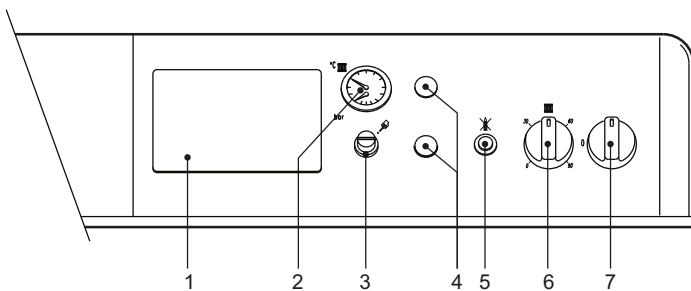

fig. 1 - Control panel
- Turn the boiler switch "7" to 1 (fig. 1).
- If the boiler is equipped with an electronic thermostatic controller fitted in position 1 of fig. 1, the user must also take into account the manufacturer's instructions.
Turn the knob **6** of fig. 1 clockwise to increase the heating water temperature, or anticlockwise to decrease it. The temperature can be varied from a minimum of 30°C to a maximum of 90°C. However, it is advisable not to operate the boiler below 45°C.
Using the room thermostat, set the temperature required in the rooms. By room thermostat command, the boiler lights and brings the system water to the temperature set by boiler control thermostat **6** of fig. 1. The generator goes off when the required temperature in the rooms is reached.
The filling pressure with system cold, read on the boiler water gauge detail 2 of fig. 1, must be approx. 1.0 bar. If, during operation, the system pressure falls (due to the evaporation of gases dissolved in the water) to values below the minimum described above, the user must bring it to the initial value by operating the filling cock. At the end of the operation always close the filling cock.